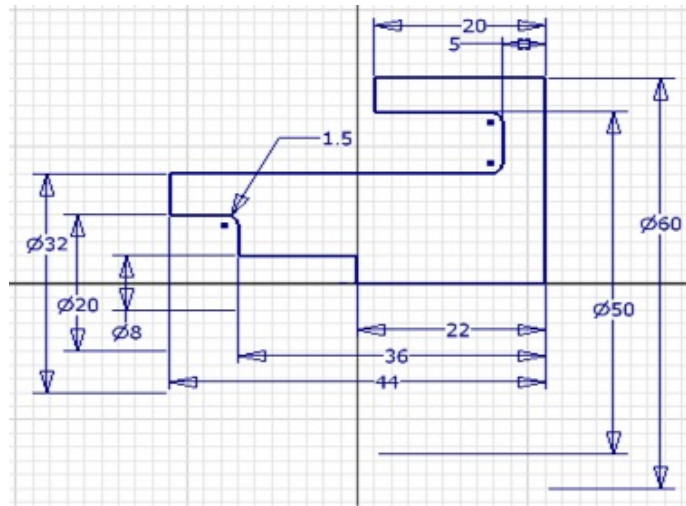

Figure 3-56 Fully dimensioned sketch after adding fillets
2. Similarly, select lines 4 and 5 as well as lines 7 and 8 to add fillets between these lines. Exit the **2D Fillet** dialog box. The final sketch after adding fillets is shown in Figure 3-56.